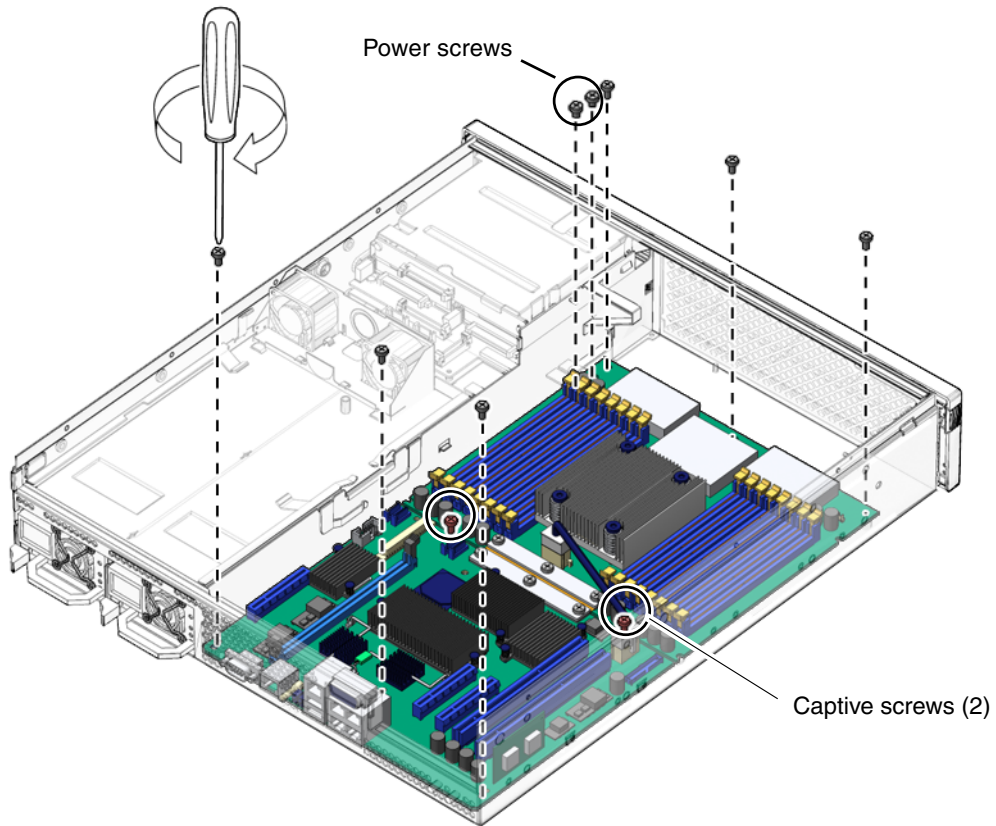

FIGURE 4-27 Installing the Motherboard Assembly Screws
4. Tighten the two captive screws at the center of the motherboard assembly (FIGURE 4-27).
5. Install the two power screws and six other screws that secure the motherboard assembly to the chassis (FIGURE 4-27).